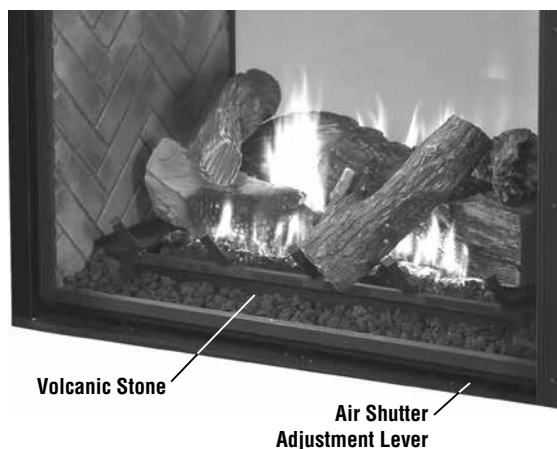

Figure 51 - Burner Flame Appearance - Control Side
2. Allow the burner to operate for at least 30 minutes while continuously observing the flame to ensure that the proper flame appearance has been achieved (see **Figures 51 and 52**).
3. Adjust the air shutter using the lever on the lower right side of the firebox on the control side (**Figure 51**).
NOTE: See **Figures 51 and 52** for proper burner flame appearance.